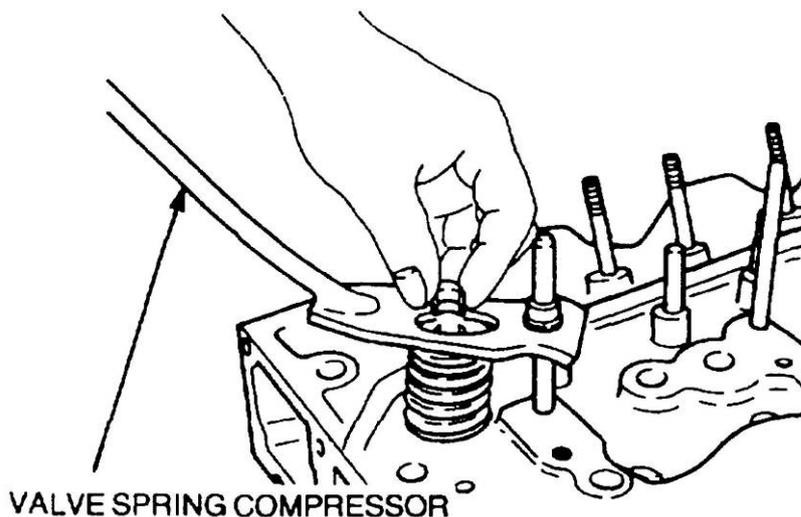

Figure 2 Valve Removal
- Install a valve spring compressor, special tool 9-8523-1426-0, over a valve, compress the valve springs and remove the two collets (Figure 2).